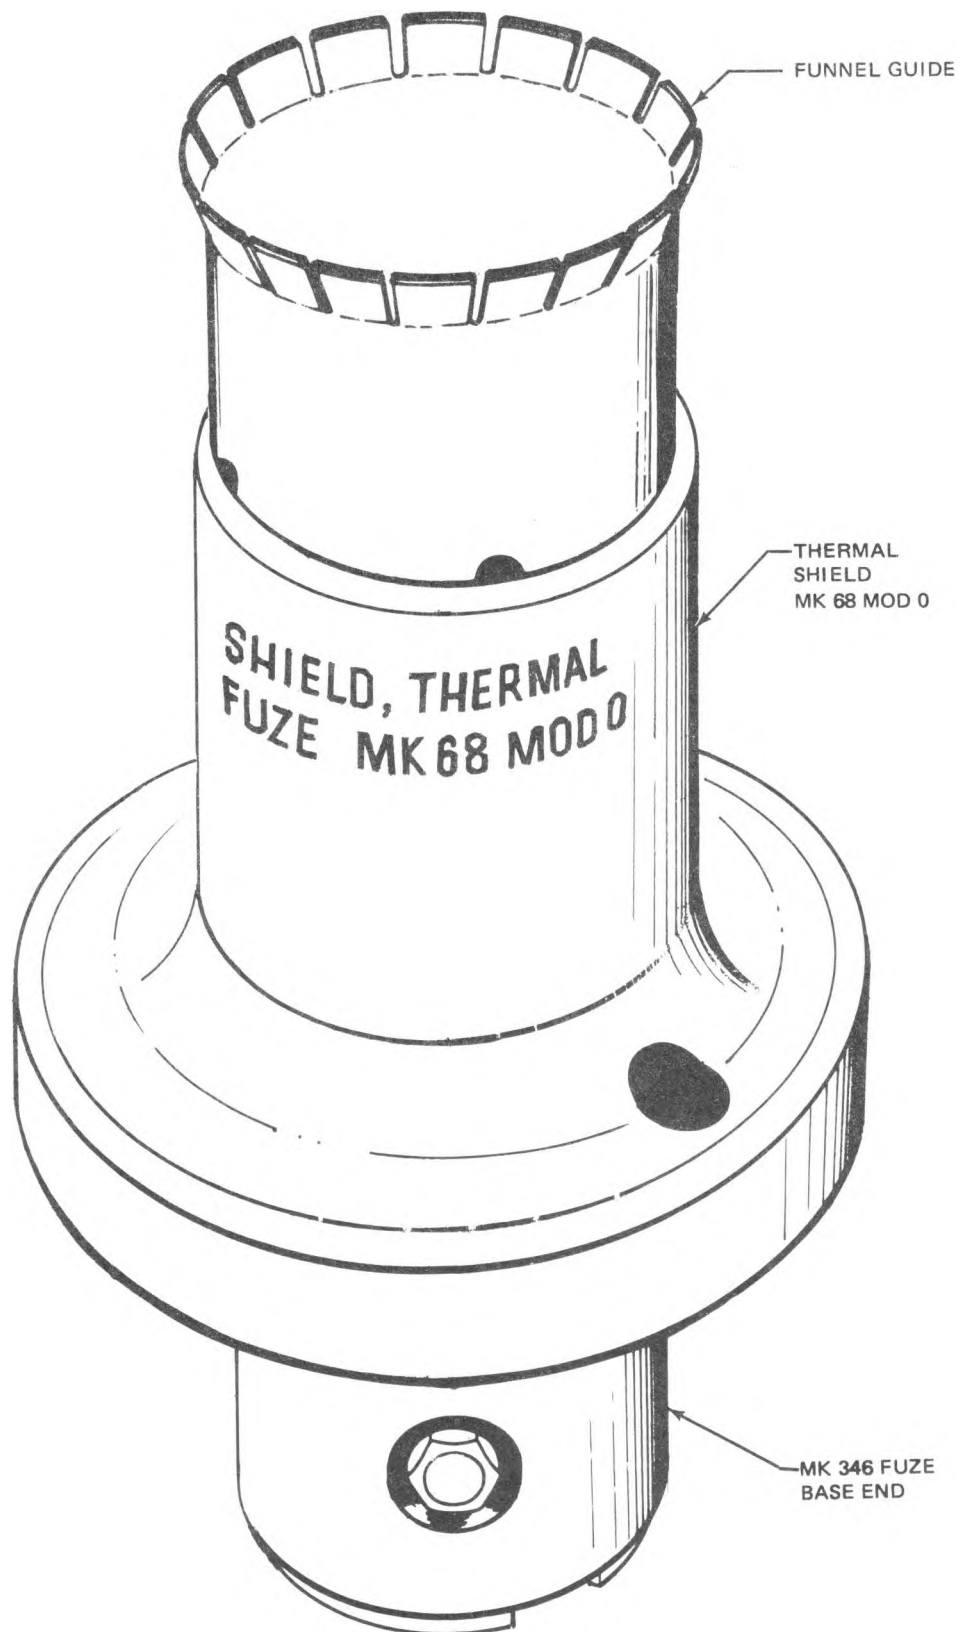

Figure 7-8. Fuze MK 346 with Thermal Shield MK 68 Installed
7-54. Fuze MK 346 Mod 0 is installed in the adapter-booster M150/T46 series. The MK 346 must be fitted with arming assembly MK 3, 4, or 5. Refer to section VIII for details on these drives. A thermal shield (thermal shield MK 86 Mod 0, figure 7-8) is used with the fuze MK 346 when the fuze is installed in the thermally protected MK 80 series LDGP bomb conical or retarded-fin configuration.
1. Install the thermal shield (figure 7-8) on the fuze if a thermally protected bomb MK 82 Mod 2 is being assembled. Proceed as follows: